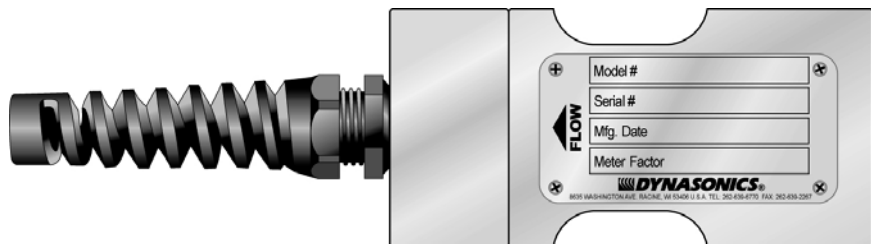

Figure 2.6
3. Replace the upper Jam Nuts (2 on each rod) and the cotter pins. The nuts should be run down to the top side of the retaining collar and the cotter pins replaced. Orient the MagProbe in the direction of flow as indicated on by the FLOW direction arrow located on the top of the MagProbe amplifier enclosure. See **Figure 2.6**.